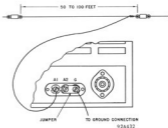

Figure 3. Single Wire Antenna Installation.
A. Single Wire Antenna: When using a single wire antenna installation, connect a jumper between the antenna terminal A2 and G. Then connect a single wire of about 50 to 75 feet (including lead-in) to terminal A1. Use #14 gauge copper wire or heavier for best results. Erect the antenna as high and free from surrounding objects as possible. This type of antenna works well where the signal to noise ratio is relatively high and a more elaborate installation is not practical. Refer to Fig. 3.
(1) To determine the proper length of the doublet antenna in feet: